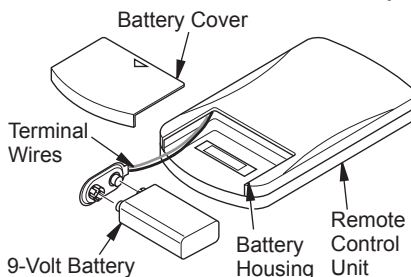

Figure 22 - Installing Battery in Hand-Held Remote Control Unit
2. Locate the battery clip mounted on the back of the receiver (see Figure 22).